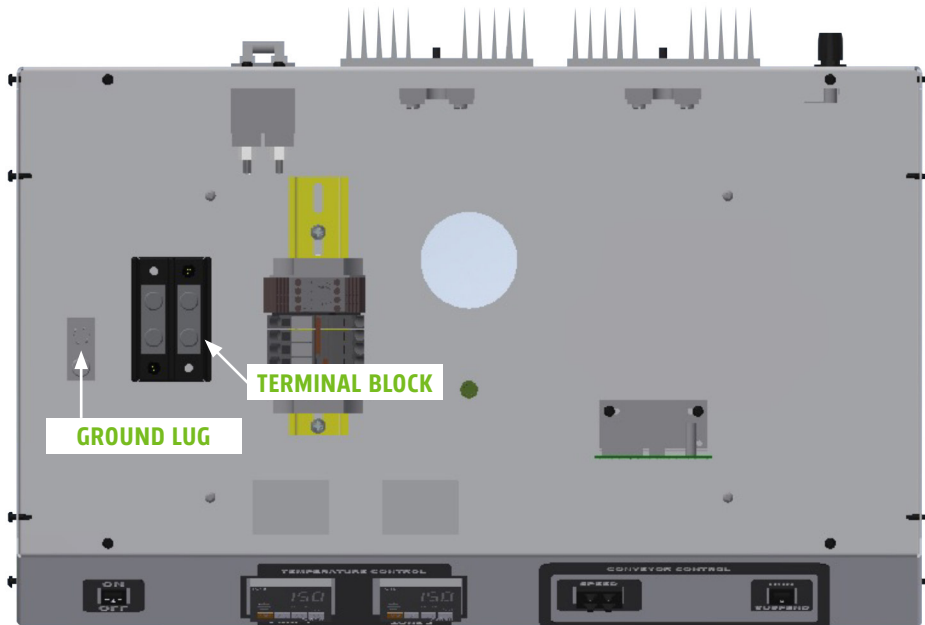

FIGURE 2 - SINGLE PHASE CONTROL PANEL
4. Place the POWER leads into the open side of the large TERMINAL BLOCK and tighten the set screws. BE SURE NOT TO CLOSE WIRE INSULATION IN THE TERMINAL BLOCK. (FIG. 2 & 3)